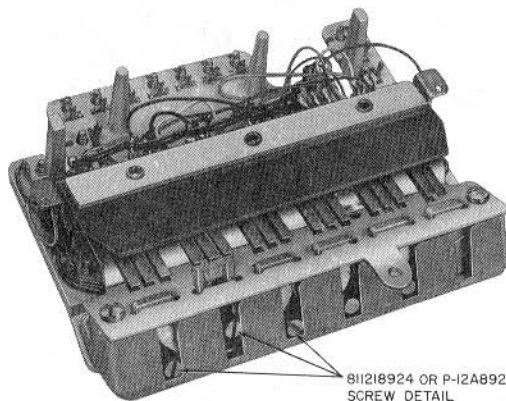
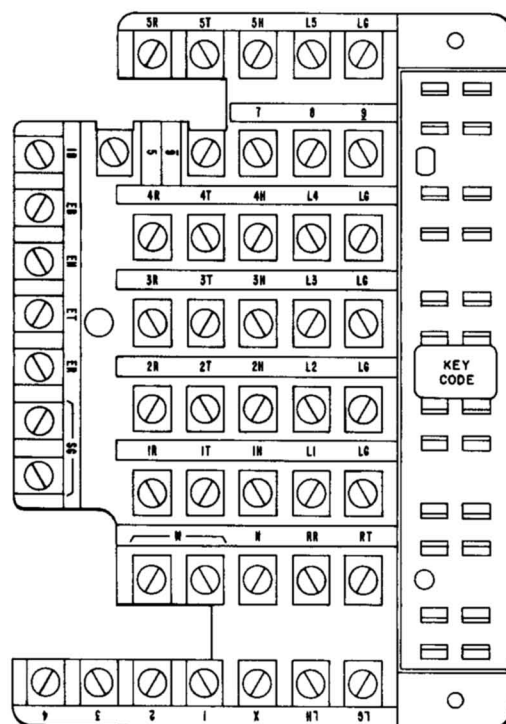

Fig. 1—636A Key, Bottom View
Fig. 2—Terminal Board for the 636A and 589Y Key
**2.01** The 636-type key (Fig. 1) has a terminal board arrangement to accommodate matching cord terminal wafers, so that any line connected to the set can be interchanged readily to appear on any five line pickup keys. See Fig. 2 and 3 for terminal designations on the 636A and 636B, respectively.
**2.03** Certain pickup buttons on 4- and 6-button sets are arranged for conversion to signaling. To convert, remove 811218924 (P-12A892) screw detail (Fig. 1) and make necessary wiring changes. Table A shows key and associated telephone sets with convertible buttons.